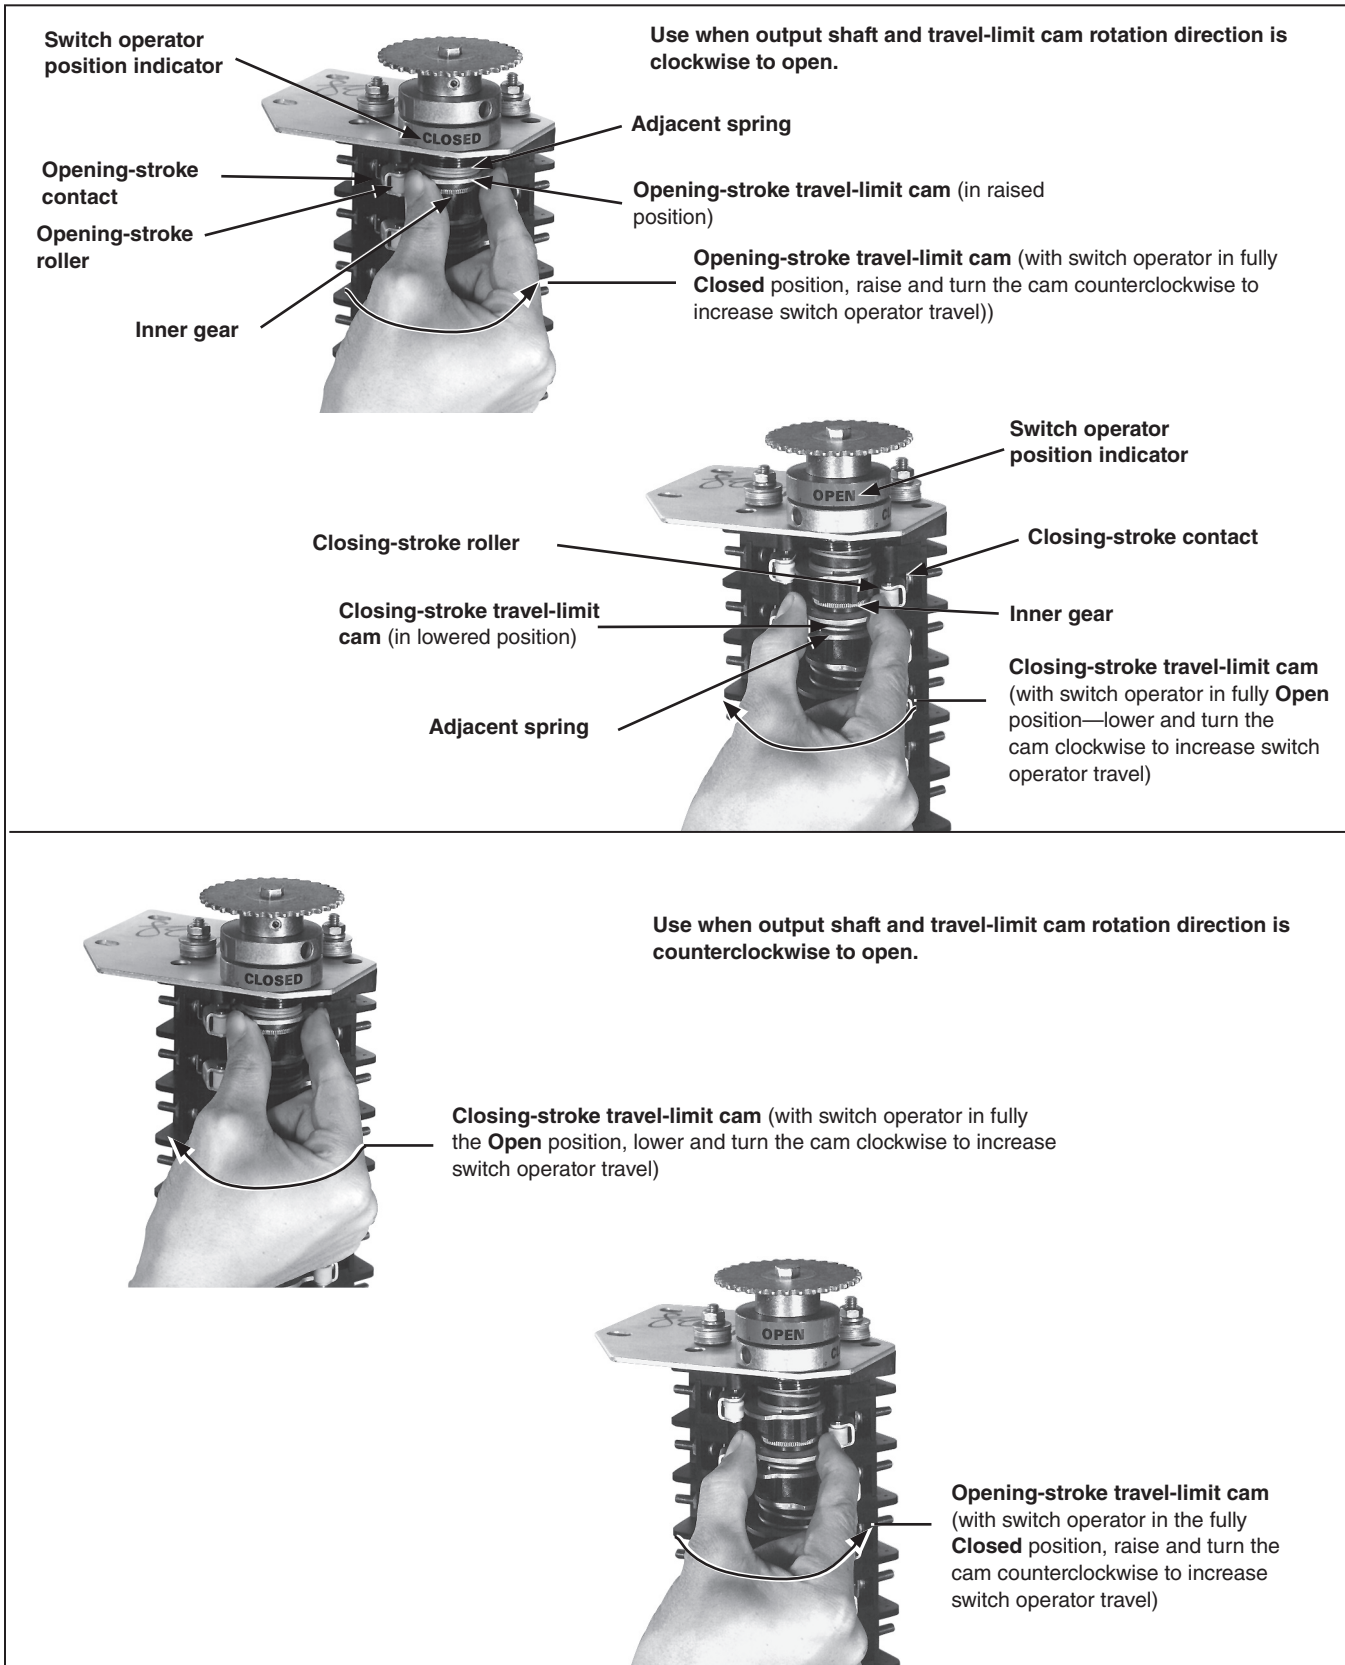
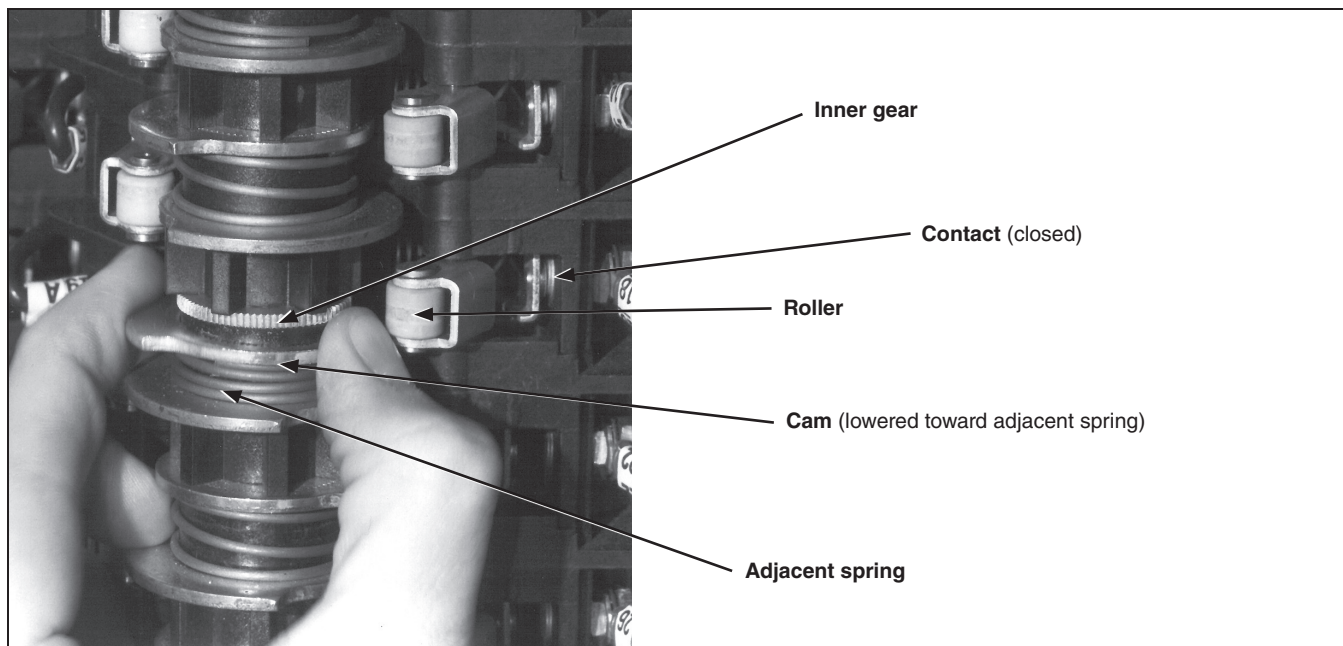

Figure 9. Adjusting of travel-limit cams.
Figure 10. Adjusting the auxiliary switch cams.
- (c) Rotate the cam to advance or limit engagement with its roller. See Figure 9 on page 16 and Figure 10 on page 17. Advance the cam to decrease travel. Retard the cam to increase travel.
To attain full stop positions (and over-toggle positions, where applicable) of the high voltage switch, refer to Figure 9 on page 16 and proceed as described below.
Any auxiliary-switch contact being used must be checked for proper operation after the switch operator travel-limit cams have been adjusted. Check the auxiliary-switch contacts for both the **Open** and **Closed** positions of the high-voltage switch. If necessary, adjust the cams as described in Step 7 on page 15 so the auxiliary switch contacts are in the desired **Open** or **Closed** position (i.e., cam engaged with roller, or cam disengaged from roller). See Figure 10 on page 17.